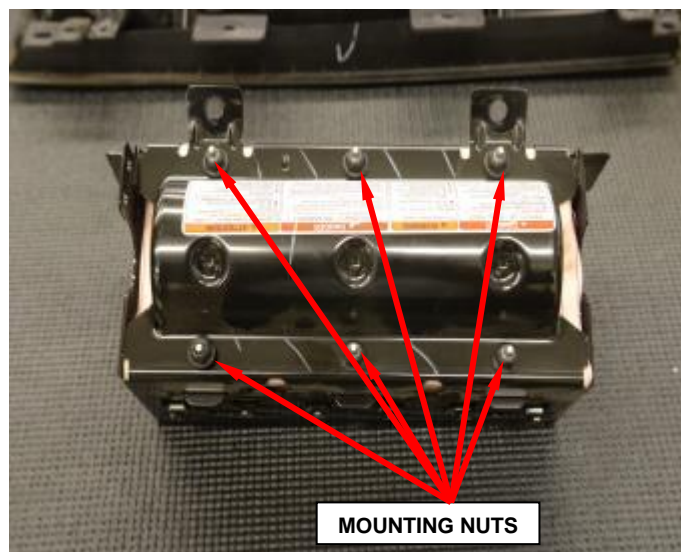

Figure 23 – Six Mounting Nuts
- i. Remove and discard the six mounting nuts (Figure 23).